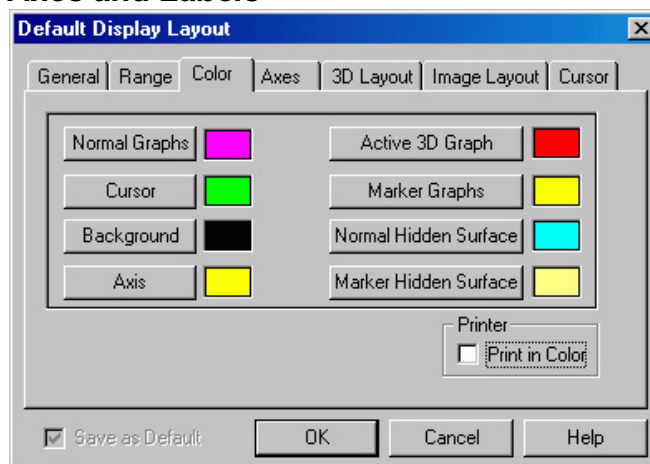

Figure 107. Color tab page
2. Click on **Axis**. The color palette will open as shown in Figure 107.